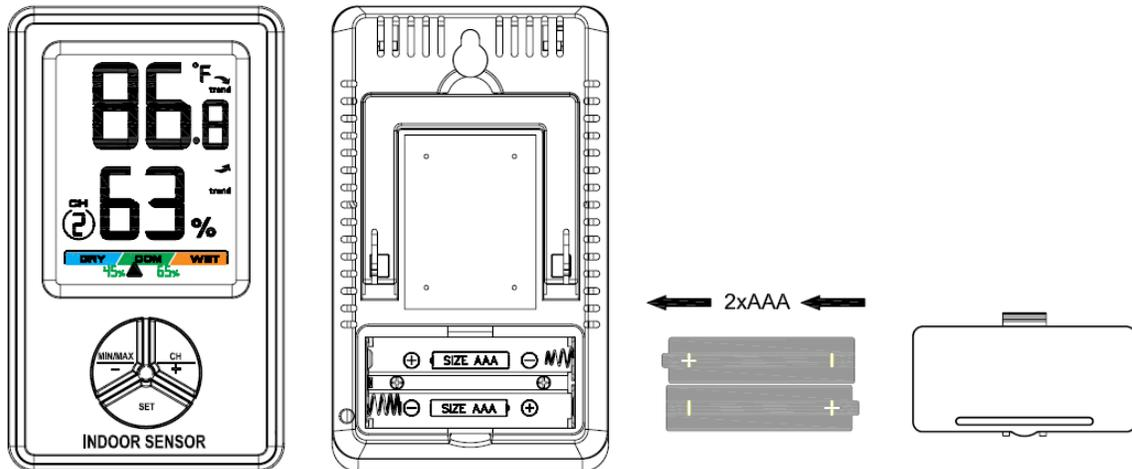

Figure 1
1. Remove the battery door on the back of the sensor, as shown in Figure 1. Insert two AAA (alkaline or lithium, avoid rechargeable) batteries in the back of the indoor sensor.